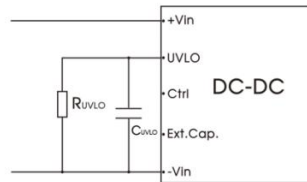

Fig.9
- The UVLO pin can adjust the point of input under-voltage protection by the external resistance RUVLO. Please refer to Fig.9 for the value of RUVLO, if the pin is left open, the under-voltage protection point is 11V.
- Resistor RUVLO is used to adjust the input under-voltage protection point. Refer to Figure 9 for the value.